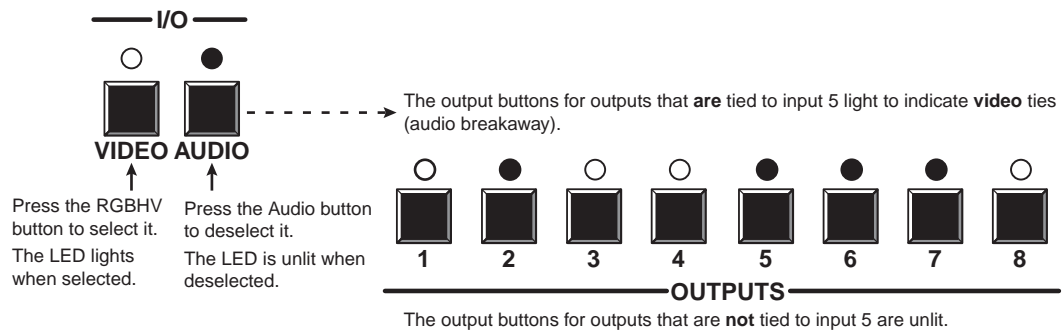

Figure 3-26 — Deselect audio and select RGBHV to view RGBHV only
- Press and release the RGBHV button and the Audio button to toggle the RGBHV LED lit and the Audio LED unlit (figure 3-26).